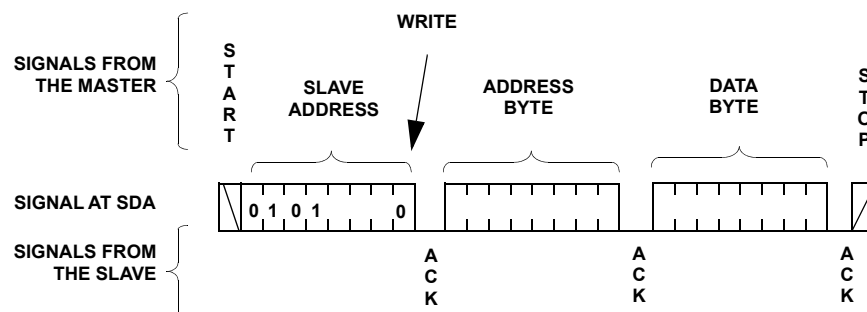
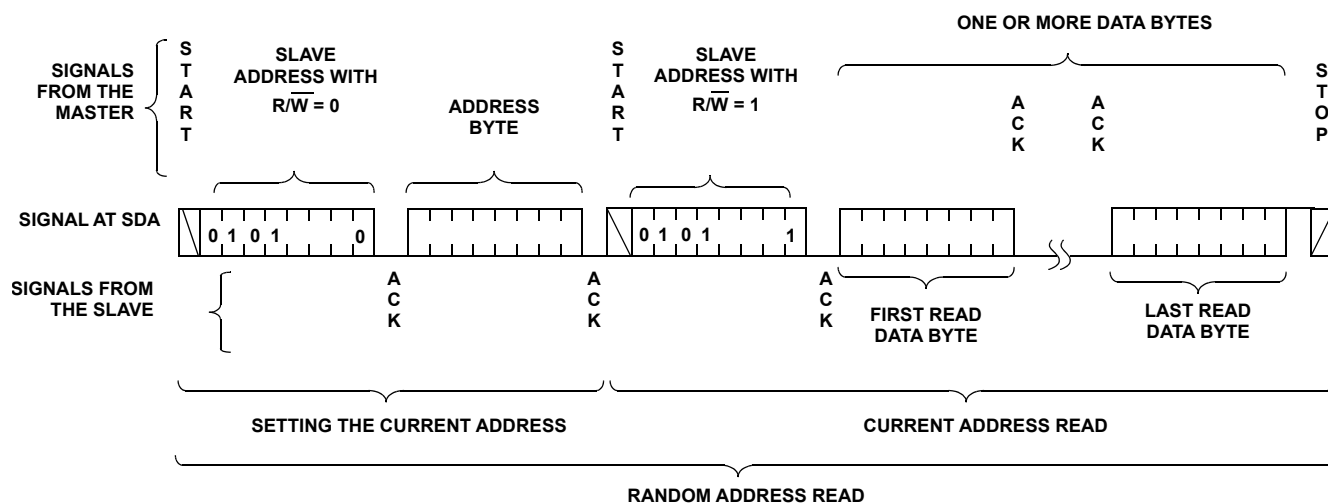

FIGURE 8. BYTE WRITE SEQUENCE
FIGURE 10. MOVE/READ SEQUENCE
14. Access the desired DR or WCR using a new write or read command (see Figure 8 for write and Figure 10 for read.)
For any Byte Write operation, the X9252 requires the Slave Address byte, an Address Byte, and a Data Byte (see Figure 8). After each of them, the X9252 responds with an ACK. The master then terminates the transfer by generating a STOP condition. At this time, if the write operation is to a volatile register (WCR, or SR), the X9252 is ready for the next read or write operation. If the write operation is to a nonvolatile register (DR), and the WP pin is high, the X9252 begins the internal write cycle to the nonvolatile memory. During the internal nonvolatile write cycle, the X9252 does not respond to any requests from the master. The SDA output is at high impedance.
Move/Read operation consists of a one byte, or three byte instruction followed by one or more Data Bytes (see Figure 10). To read an arbitrary byte, the master initiates the operation issuing the following sequence: a START, the Slave Address byte with the R/W bit set to "0", an Address Byte, a second START, and a second Slave Address byte with the R/W bit set to "1". After each of the three bytes, the X9252 responds with an ACK. Then the X9252 transmits Data Bytes